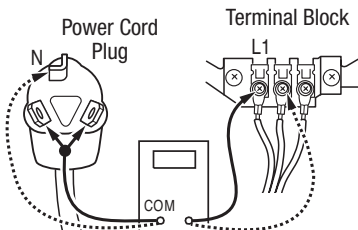

Figure 3a. Plug-to-terminal connections for electric dryer.
3. With an ohmmeter, check for continuity between the neutral (N) terminal of the plug and the center contact on the terminal block. See figure 3a.
4. In a similar way, check which terminal of the plug is connected to the left-most contact on the terminal block and make a note of it. This will be L1 (black wire) in the wiring diagram. See figure 3a.